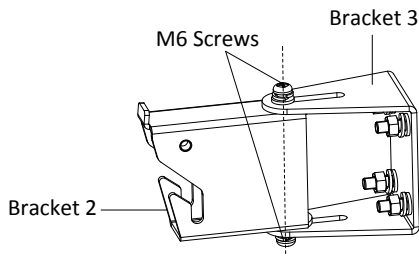

Figure 3-3 Fix Bracket2 to Bracket3
- Put the bracket 2 into the bracket 3 as shown in the Figure 3-3. Slide the bracket 2 in the bracket 3. It is recommended to put the bracket 2 in the position shown in Figure 3-3 first, and fix the bracket 2 to the bracket 3 with the two supplied M6 screws.